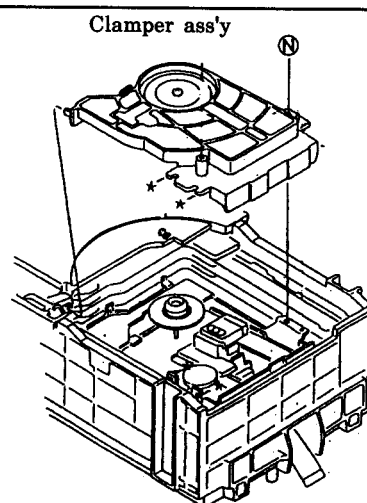

Fig.21
5. Remove a screw ⑥securing center of the clamber ass'y.(See Fig. 21)